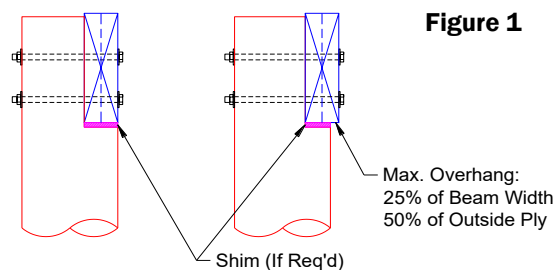

Figure 1
- Each ply must be adequately supported. Maximum beam overhang is 25% of the beam width (single ply beam). For multi-ply beams, at least 50% of the outside ply must be supported (Figure 1).
- Two (2) 5/8" diameter bolts minimum. Use corrosion resistant connectors (refer to Hardware Recommendations section).